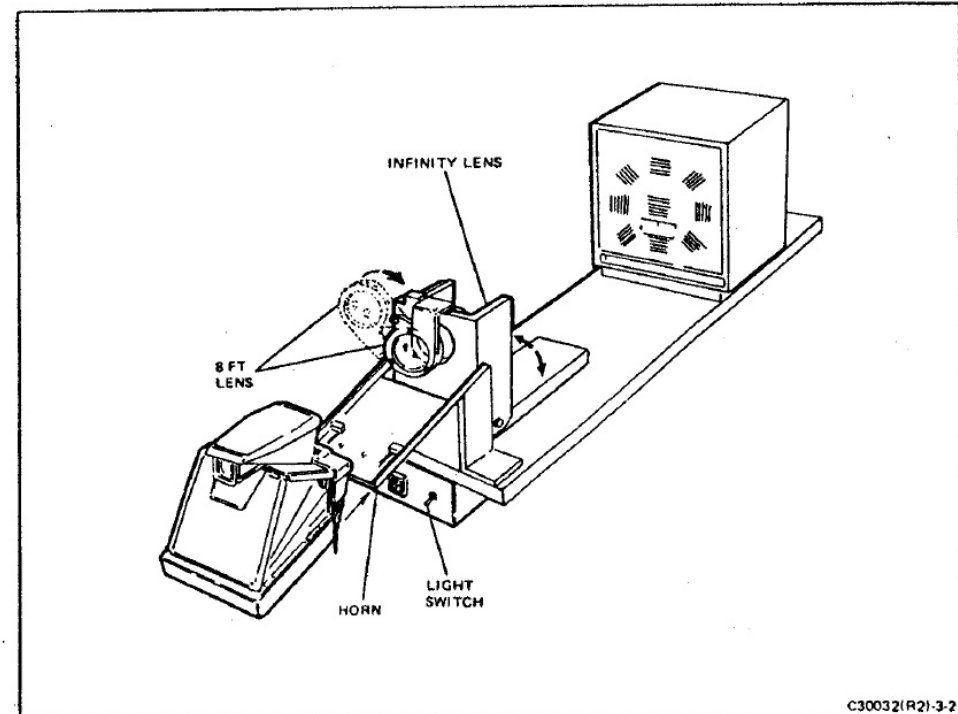
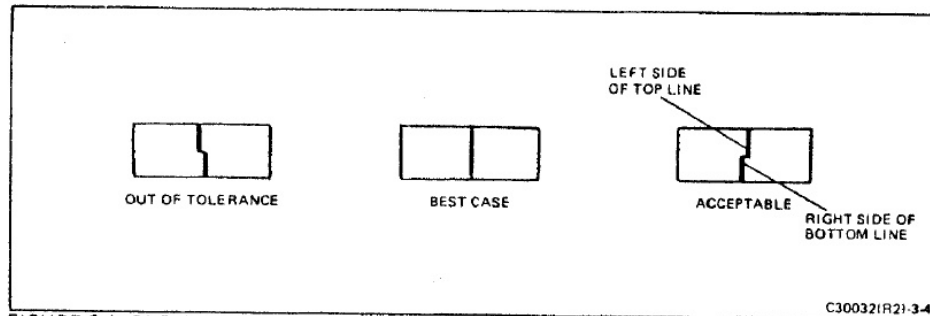

FIGURE 3-2 SX-70 COLLIMATOR
FIGURE 3-4 TYPICAL COLLIMATION CONDITIONS
2. Collimator (Figure 3-2)
- (1) Remove the camera front cover and load the camera onto the horn of the collimator #321 564 (Figure 3-2). (The collimator uses a rear-illuminated target so no additional equipment is needed.)
- (2) Turn on the collimator light.
- (3) View the added target with the focus wheel set to infinity.
- (4) Compare the observed conditions with the examples shown in Figure 3-4. As indicated (best case), the upper part of the vertical line should be aligned with the bottom part of the line or it may be displaced to the right. (If displaced to the right (acceptable), it should still be touching the lower part of the line.)
- (5) If the upper part of the line is displaced to the right so far that it does not touch the lower part of the line or if it is displaced to the left (out of tolerance), the tolerance levels are exceeded and the camera must be rejected. Corrective procedures are outlined in Section 4.
- (6) Verify the infinity setting. Do this by observing the vertical line target through the collimator infinity lens and the camera optics. The line should be straight within the tolerance shown in Figure 3-4.
- (7) Swing the collimator infinity lens back down to its horizontal position, out of the viewing path of the camera. Turn the camera focus wheel to the 10.4" setting.
- (8) Look through the camera and observe the vertical line target. Compare the observed image with Figure 3-4 to determine if the camera is within specifications.
- (1) Set the camera focus to infinity and the L/D control to mid-range. Set the power supply to 5.8 volts.
- (2) Remove the front cover from the camera and install the S7 switch actuator.
- (3) Install the camera on the horn of the tester. The camera should go through its dark-slide cycle.
- (4) Remove the camera from the tester and set it on the collimator.
- (5) Swing the 8" and infinity lenses into their vertical positions on the collimator and look through the camera eyelens.
- (6) Turn the focus wheel until the vertical line in the center target is straight (refer to Figure 3-4). The camera is now collimated for the 8" setting. Tape the focus wheel so it can't be accidentally moved.
- (7) Remove the camera from the collimator and place it on the tester.
- (8) Install the flash simulator plug into the socket on the camera and close the S2 CLOSE-OPEN SWITCH.
- (9) Set the light level selector to 800 cdl/ft².
- (10) Set the flash mode aperture switch to 8".
- (11) Block any light from the photocell on the camera using a square of cardboard or other material.
- (12) Depress the exposure button and observe the APERTURE meter.
- (13) Record the 8" APERTURE reading and compare it to the STANDARDS Chart.
- (14) Remove the tape from the focus wheel and rotate the wheel to the 10.4" setting.
- (15) Set the flash mode aperture switch to 10.4".
- (16) With the photocell still blocked, press the exposure button and observe the APERTURE meter.